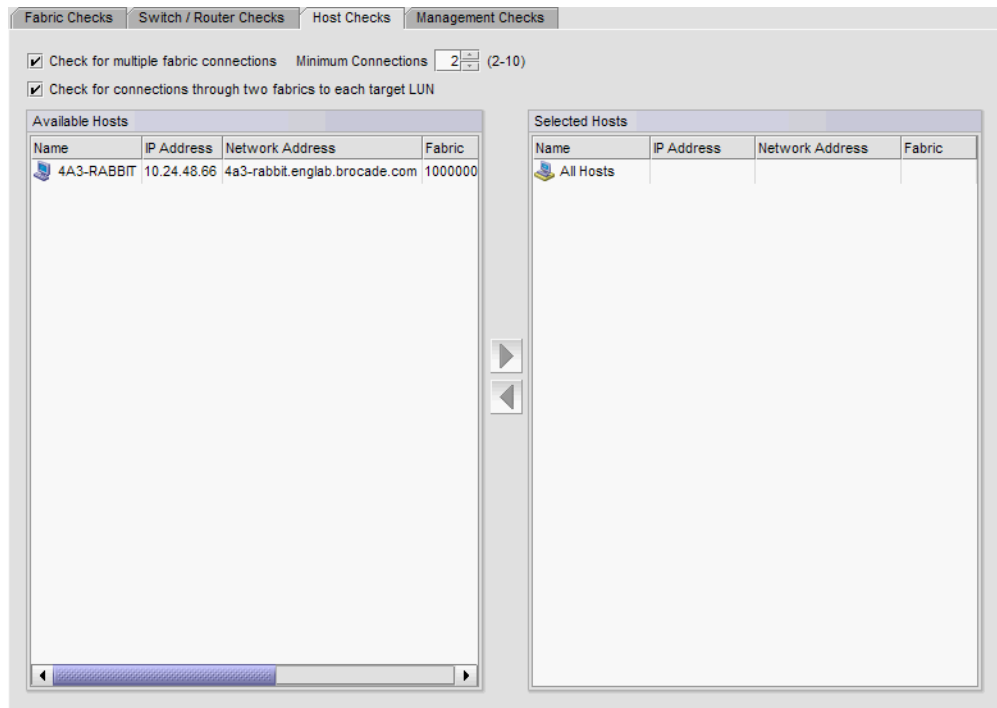

FIGURE 440 Add Policy Monitor dialog box, Hosts Checks tab
- 8. To set policy monitors for hosts, select the **Host Checks** tab (Figure 440) and complete the following steps.